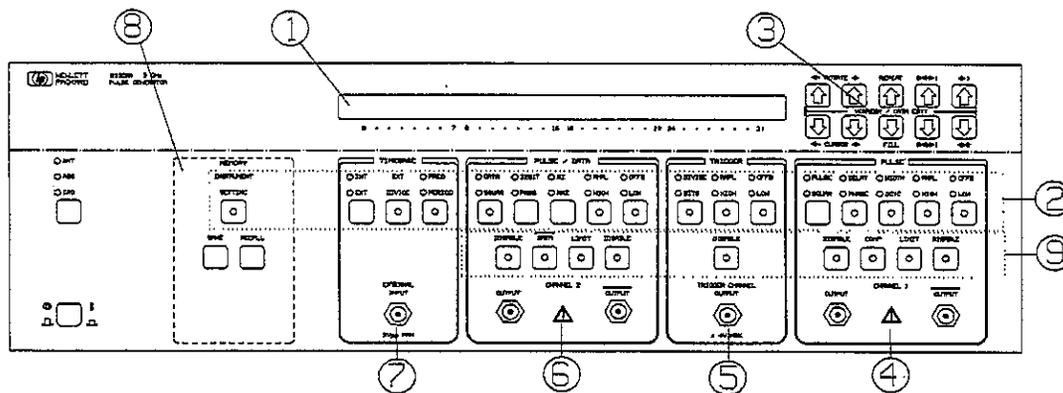

Figure 2-1. HP 8133A Frontpanel overview
- indicated by LEDs in and above a **mode/parameter key** (See Figure 2-1).